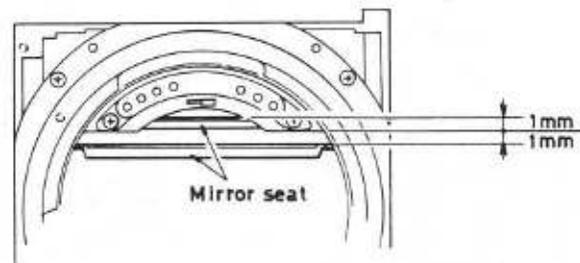
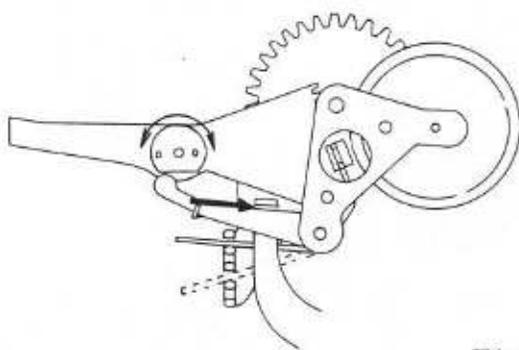

Fig. 29
Fig. 30
- 3. Turn the eccentric screw as shown in Fig. 30 so that the mirror brake starts working in the range as shown in Fig. 29.
3. Make sure that there is the gap as shown in Fig. 30.